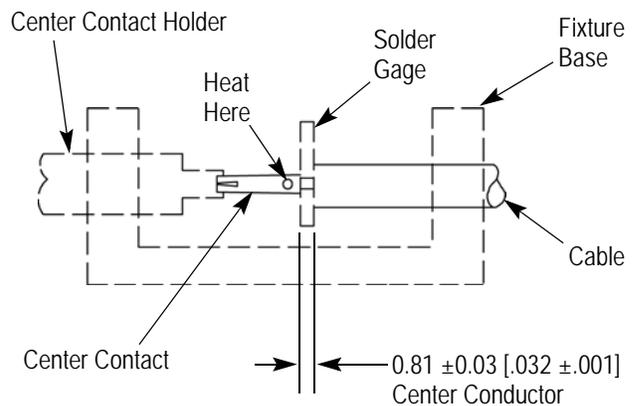

Figure 3
5. Place the center conductor in the solder gage. Align the end of the jacket with the solder gage. See Figure 3.
6. Place the center contact in the center contact holder. Heat the center contact, and slide it onto the center conductor until it rests firmly against the solder gage. See Figure 3.